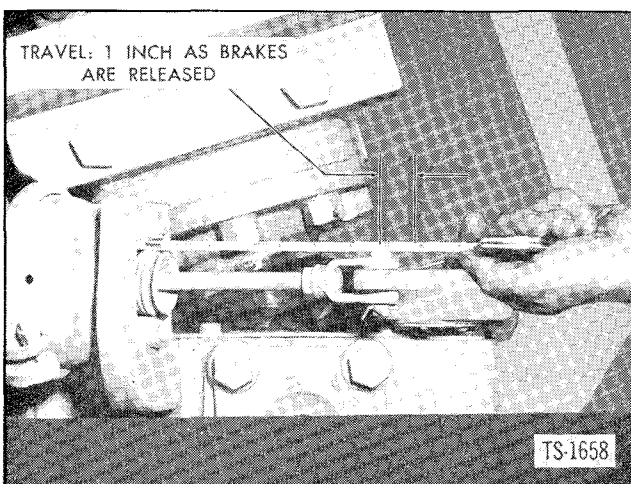

Fig. 13. Measure Brake Chamber Push Rod Travel
2. With maximum air pressure and with brakes fully activated and applied, adjust at slack adjuster to obtain 1" of travel on brake chamber push rod when brakes are released. Refer to Figure 13.